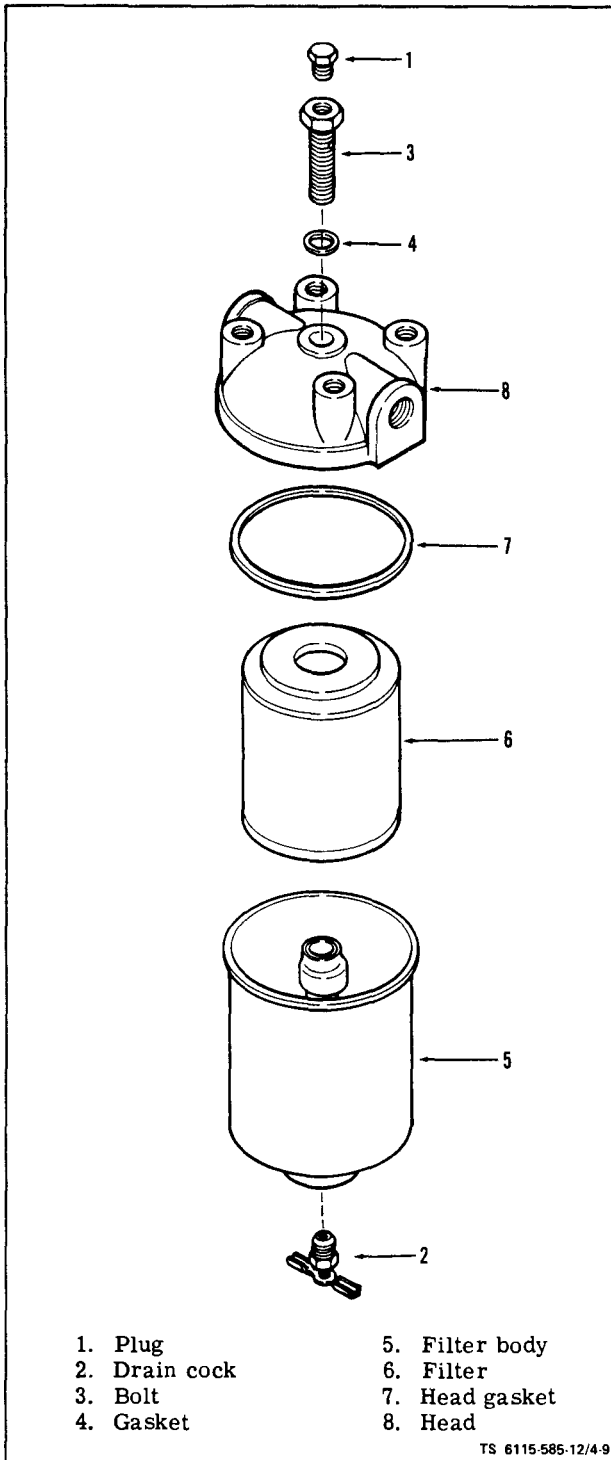

Figure 4-9. Fuel Filter
(1) Fuel Filters (see figure 4-9). On ASK equipped generators, remove right panel assembly (para 5-6). Remove plug (1), open drain cock (2) and drain fuel into suitable container. Remove bolt assembly (3), gasket (4) and filter body (5). Remove filter element (6) and gasket (7). Inspect element for ruptures, clogs or other